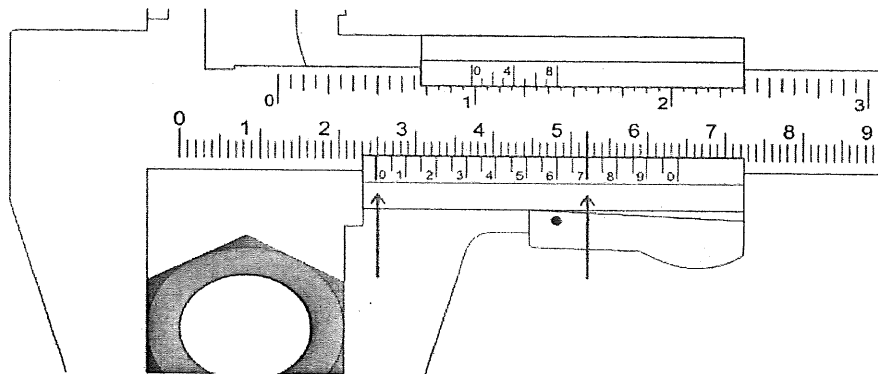

Figure 3: Vernier Caliper Reading
- Figures 3, 4 and 5 show readings for three different measuring instruments. Solve the reading value (metric) shown for each figure: